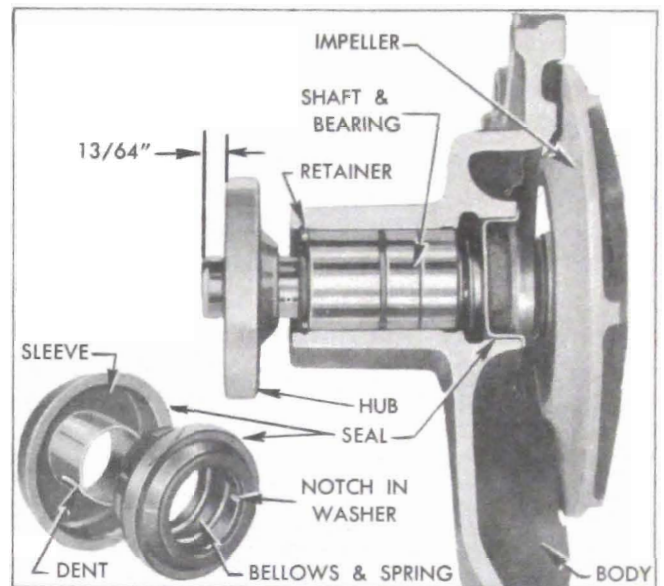

Figure 2-38—Water Pump Parts
7. Check pump shaft bearing for end play, or roughness in operation. If bearing is not in servicable condition, press the fan hub off the shaft, remove bearing retainer, then press bearing out toward FRONT of pump cover. See figure 2-38.
2. Use care to start the fan hub squarely on front end of bearing shaft and press it into position $\frac{13}{64}$ " from end of shaft. See figure 2-38.
Install the carbon washer, bellows and spring assembly in the old sleeve in pump body, being careful to engage the two notches in washer with the driving dents in brass sleeve. See figure 2-38.